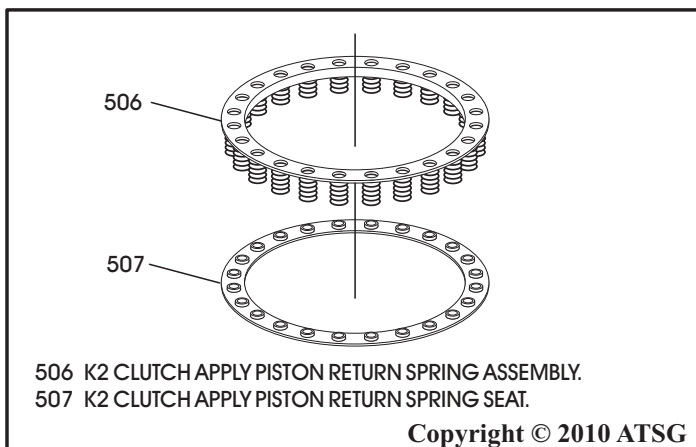

Figure 122
6. Install the K2 return spring assembly to the spring seat, as shown in Figure 122, and retain with Trans-Jel®.